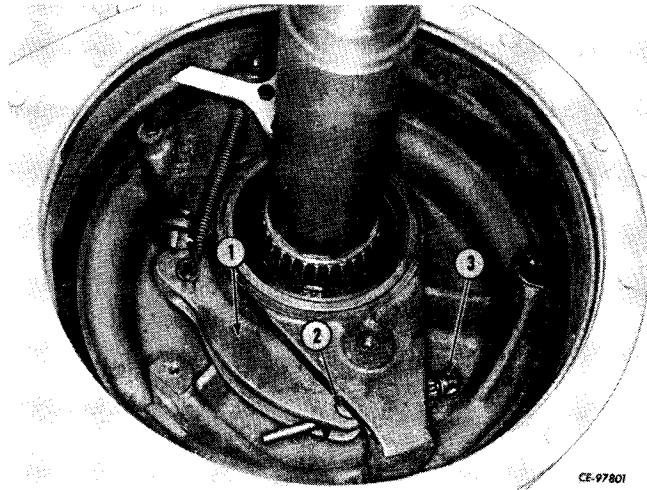

Figure 14-10
Pull clutch adjuster (3, Fig. 14-10) out through adjustment pin (2). Adjustment pin and lock spring will loosen.